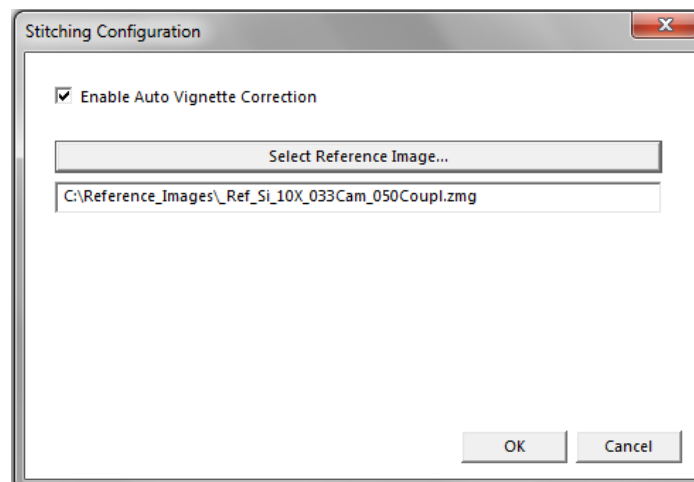

Fig. 37. Reference image selection for stitching
2. In the *Stitching Configuration* window (shown in Fig. 37), check the checkbox to enable the use of reference images (labeled *Auto Vignette Correction*).